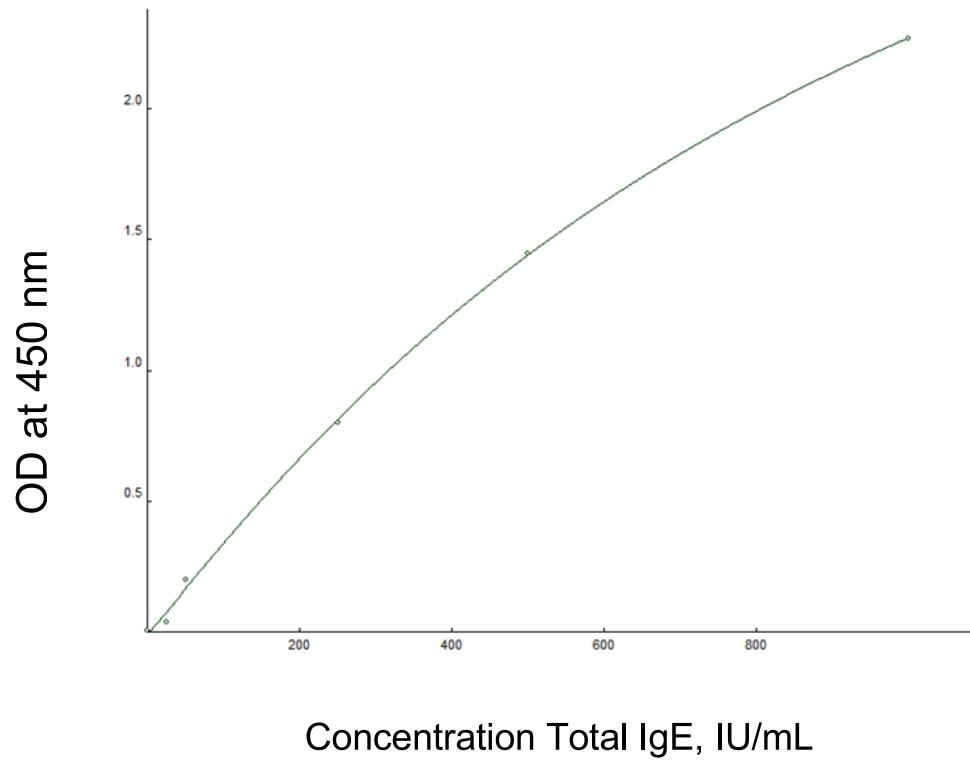

Fig. 2. Example of typical standard curve for Option 1.
- For **Option 1** use ODs of CAL 0, CAL 1, CAL 2, CAL 3, CAL 4, CAL 5 **at 450 nm** to draw calibration plot (see typical standard curve, fig. 2).